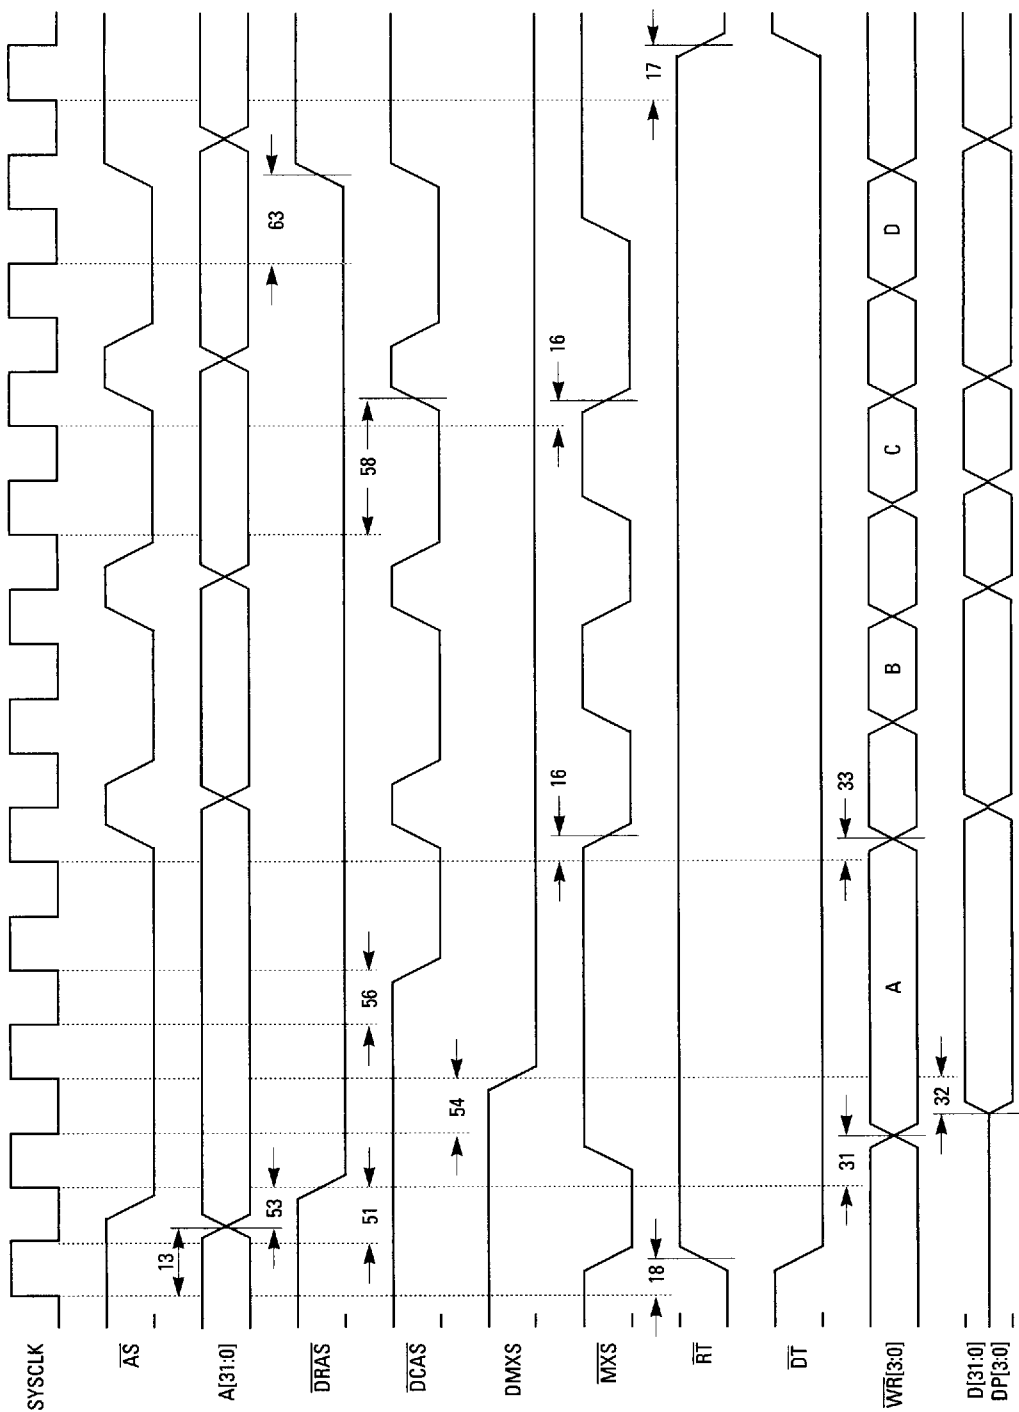

Figure 13
- DRAM Refresh Timing (Figure 13)